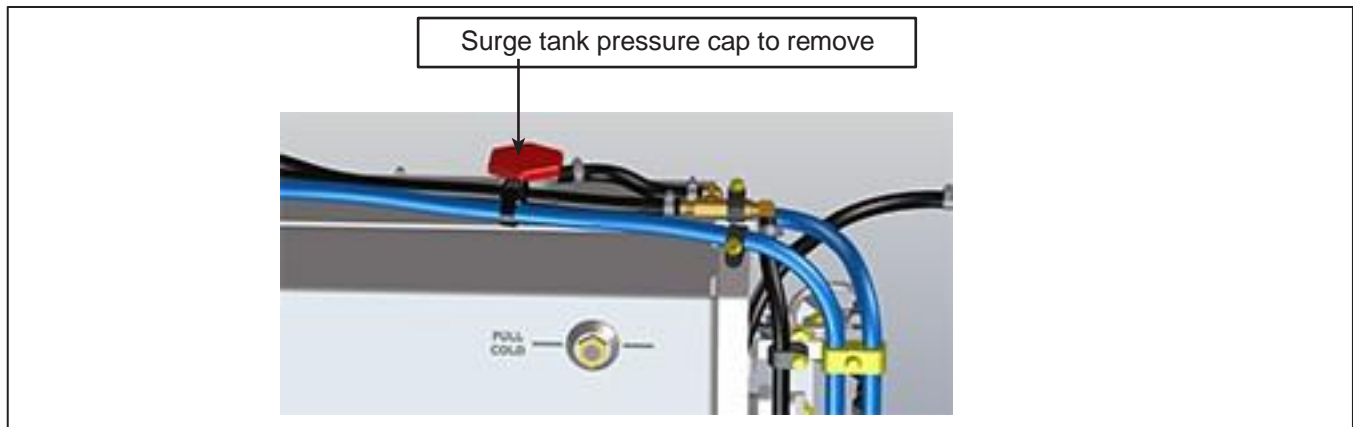

Figure 3 - Surge Tank Pressure Cap
- 1.8. Remove and retain the surge tank pressure caps. See Figure 3.